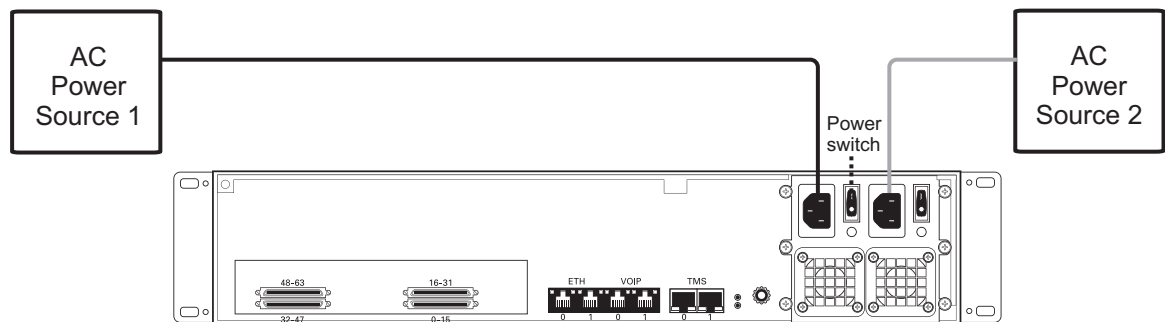

Figure 2.30 AC Power Connection
1. Connect an AC power cable between the AC connector of the TMP6400 Telecom Unit and an AC supply. See figure 2.30 on page 39.
Note If the TMP6400 Telecom Unit features a second power supply and it is not connected to an AC power source, press the green button located at the rear of the unit to disable the audible alarm. See figure 2.30 on page 39.